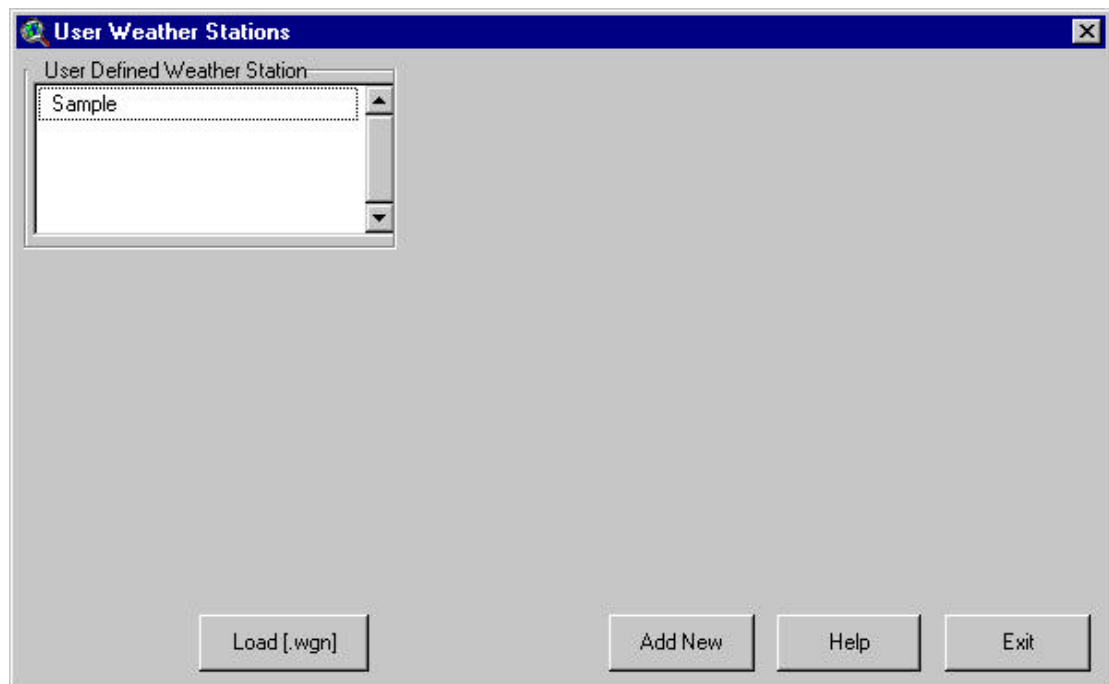

Figure 14.15
2. The User Weather Stations dialog box will be displayed (Figure 14.15).